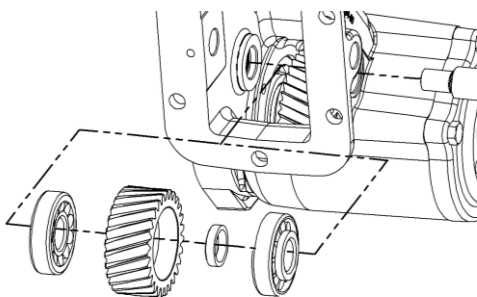

Figure 7 – Intermediate Gear Sub Assembly
**Important:** The intermediate gear is replaced as a sub-assembly to ensure proper shimming of the bearings. This sub-assembly includes the intermediate gear (35), two bearings (34) and a cone spacer (36).
14. Place lubricated o-ring (28) into the groove in the housing located on the bearing cover (40) side of the PTO housing (23) and place lubricated o-ring (24) into the groove in the housing located on the output cover (20) side of the PTO housing (23).
15. Slide this sub assembly into the PTO housing (23) to line up the intermediate shaft (37). See figure 7.